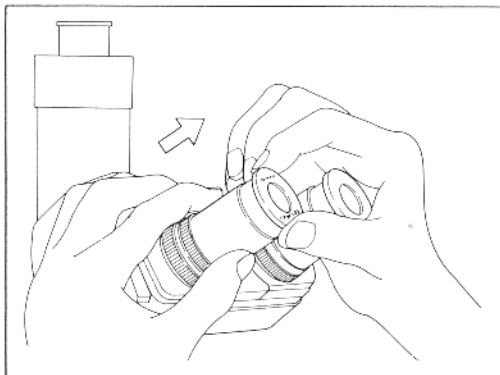

Fig. 16
- 5) The CF eyepiece being of high eyepoint type can be used with spectacles. When not wearing spectacles, extend each eyeguard as shown in Fig. 16, to a convenient position.